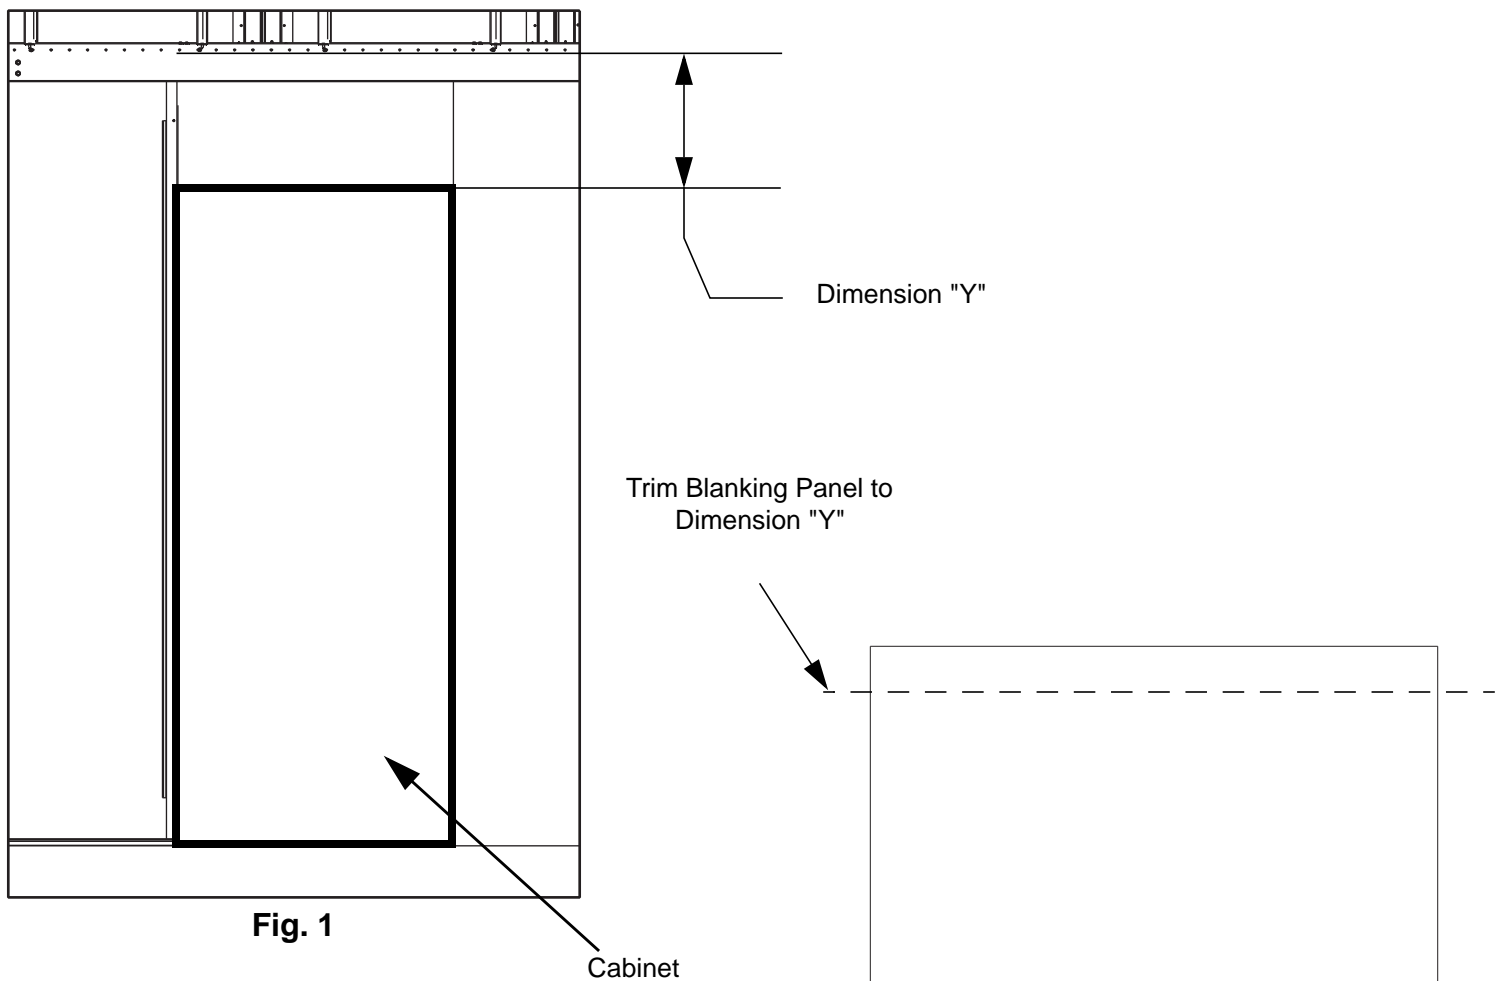

Fig. 1
- Measure from the top of the cabinet up into the gap of the wall beam where the blanking panel will extend into as show by dimension "Y" in Fig. 1.